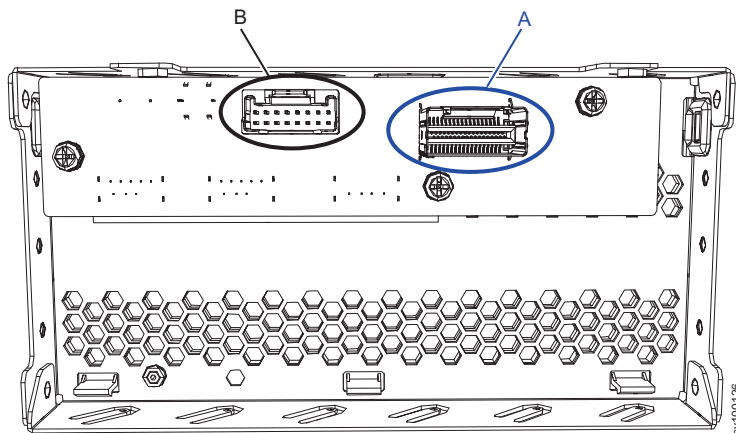

Figure 267. Cable connectors on the back of the 2145-SV1 operator-information panel
2. Connect each cable to the appropriate connector at the rear of the operator-information panel, as shown in Figure 267 on page 322.